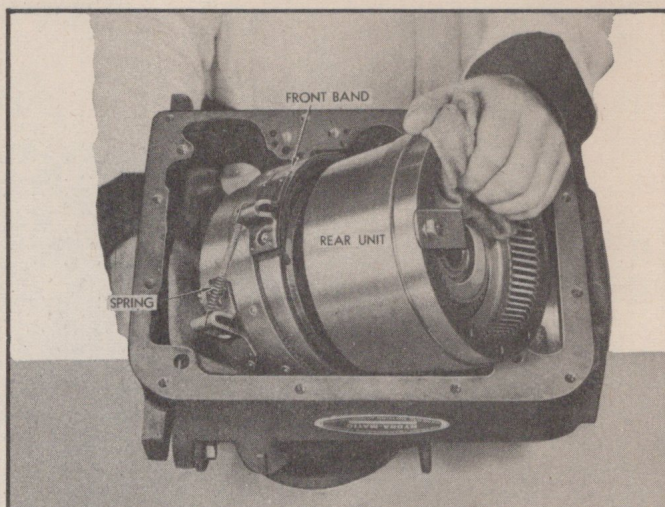

Fig. 130—Spring Holding Front Band on Drum
4. Install suitable spring or wire to hold front band on front unit drum (Fig. 130).